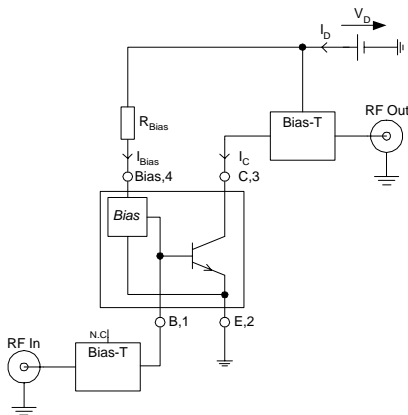

Fig. 2: Test Circuit for Electrical Characteristics and S-Parameter
**Electrical Characteristics** at  $T_A=25^\circ\text{C}$  (measured in test circuit specified in fig. 2)